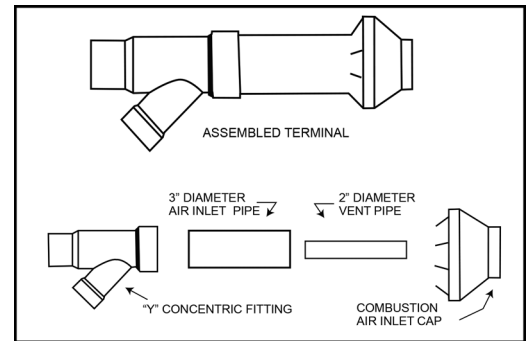

Figure 1 - Vent Terminal Assembly
(see Fig. 1).
b. Cement vent cap to smaller diameter kit pipe (see Fig. 1).